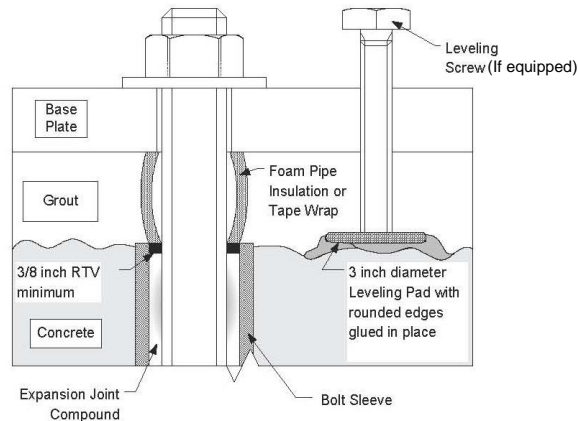

Figure 3. Grouting and Foundation Bolting
The base plate should be supported on either rectangular metal blocks with shims or on metal wedges having a small taper. The support pieces should be placed close to the foundation bolts. Refer to Figure 3, Grouting and Foundation Bolting. Place supports directly under the part of the base plate, which carries the greatest weight. Space the supports closely enough to provide uniform support of the base plate. Adjust the metal supports or wedges until the shaft is level. Check suction and discharge flanges of the pump by means of a level. Make corrections, as necessary, by adjusting the supports or wedges under the base plate.
E. GROUTING. After the pumping unit has been leveled and the alignment is correct, grout the unit to the foundation using a high-grade, non-shrinking grout, refer to Figure 3. Proceed grouting using the following procedure: